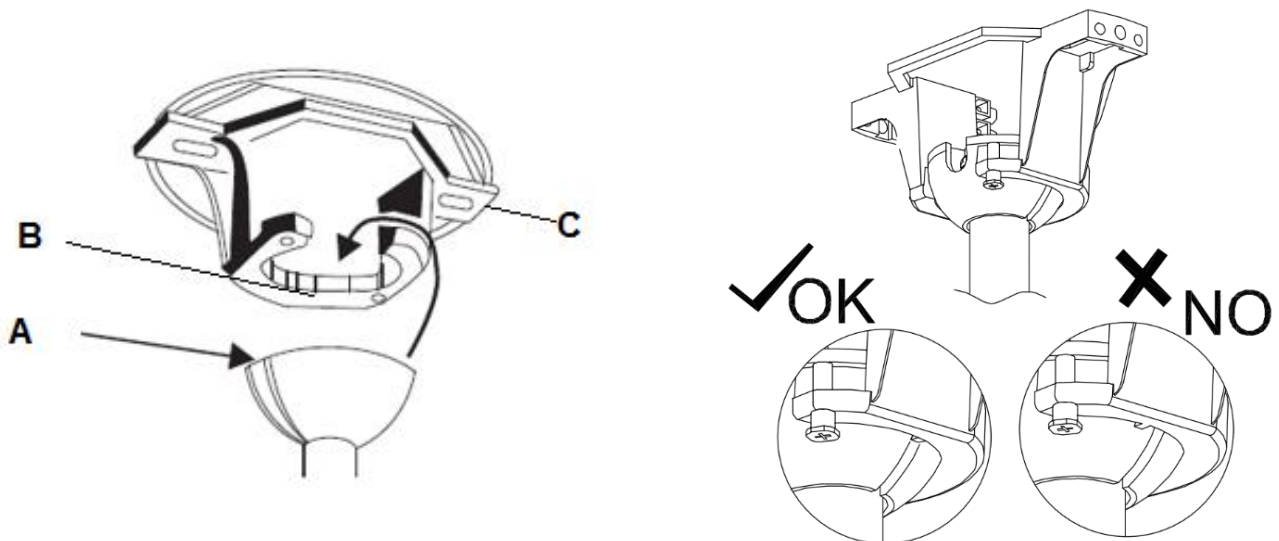

Fig. 9
Lift the fan assembly onto the mounting bracket. Ensure the key slot (A) of the hanger ball is positioned on the key pin (B) of the mounting bracket (C) to prevent the fan from rotating when in operation. (Fig. 9)